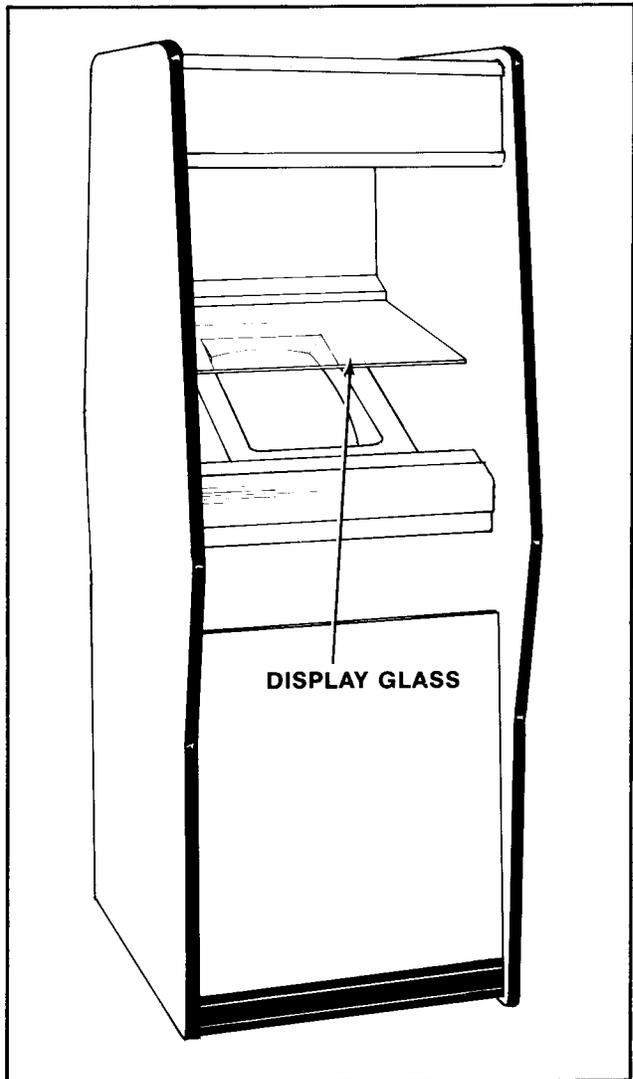

Figure 4-6 Removing Main-Display-Glass & T.V. Bezel — Upright
- By putting your finger in the hole in the middle of the main-display-glass support, you can lift it up and out. See Figure 4-6.